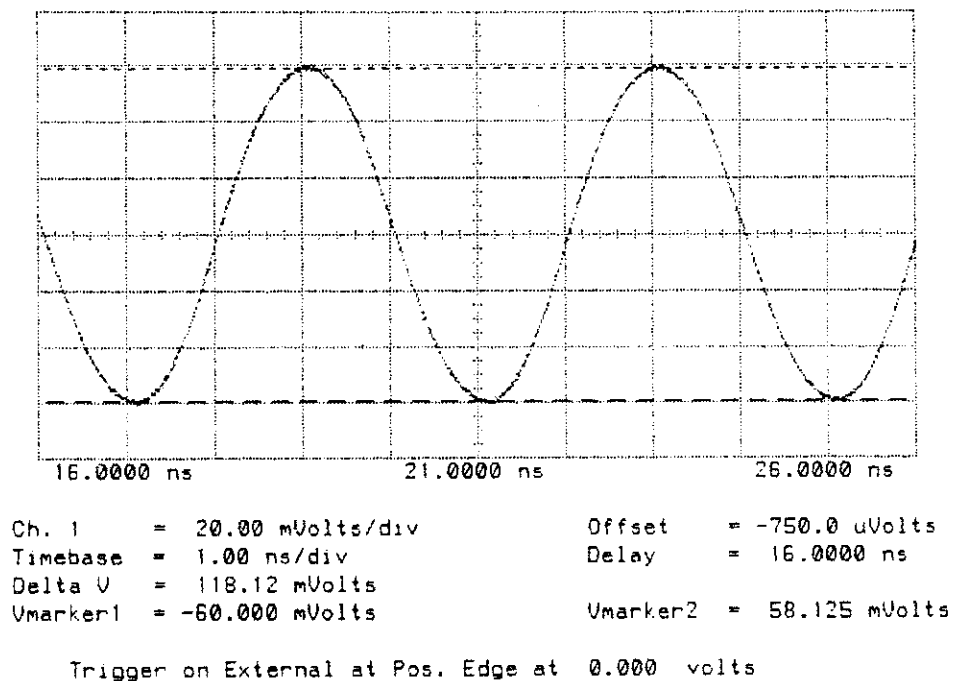

Figure 4-4. Low Bandwidth Adjustment with Markers
6. Adjust the LB1 (R153) on the vertical assembly (A2) for a signal amplitude of 0% to 100%. Adjustment LB1 is the low bandwidth adjust for channel 1 only. Refer to figure 4-4. If the signal does not line up with the markers, adjust for equal amounts above or below the markers.